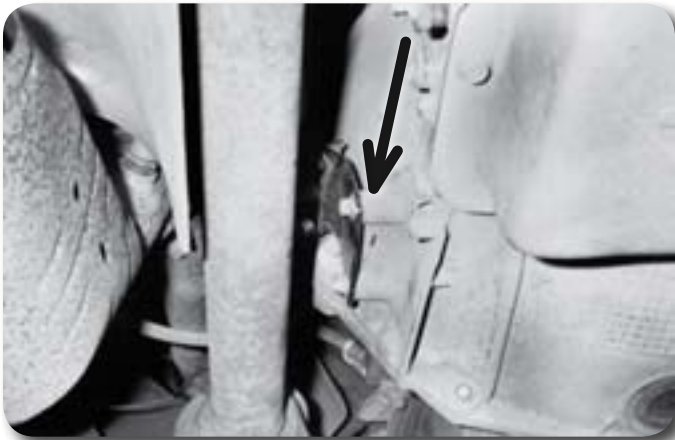

Figure 21
54. Using stock bolts, mount the transmission shift cable relocation bracket to the original cable bracket mounting holes Figure 21.